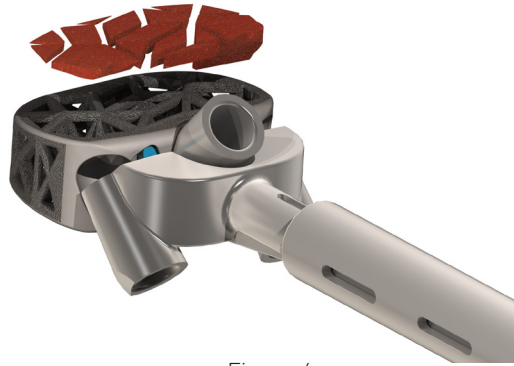

Figure 6
- ▲ Pack the implant with autologous and/or allogenic bone graft (Fig. 6). For best results, cut or morselize the bone graft into 1–2mm sized particles. Place the morselized bone into the top or bottom web structure (top and bottom are interchangeable).